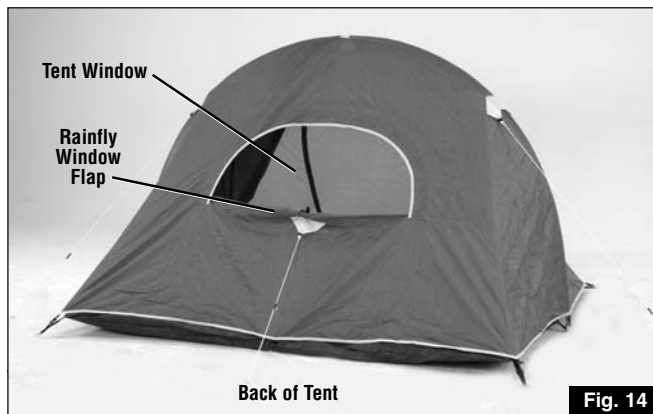

Fig. 14
3. Unzip the rainfly window flap and/or the tent window, roll up one or both flaps, then insert toggle through fabric loops to secure. (Fig. 14)